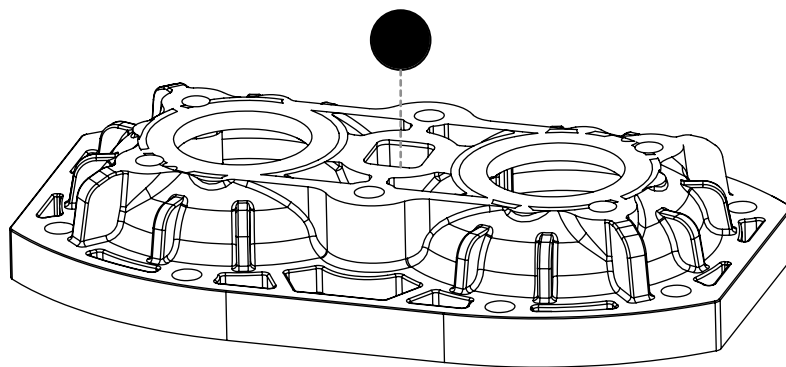

Figure 7.
9. Replace the nitrile ball from the service kit and replace into the 3 way valve orifice. (See Figure 7 on page 10)
6. Unscrew the dew point sensor from the sensor block and replace it with the new or re-calibrated sensor. (See Figure 7)